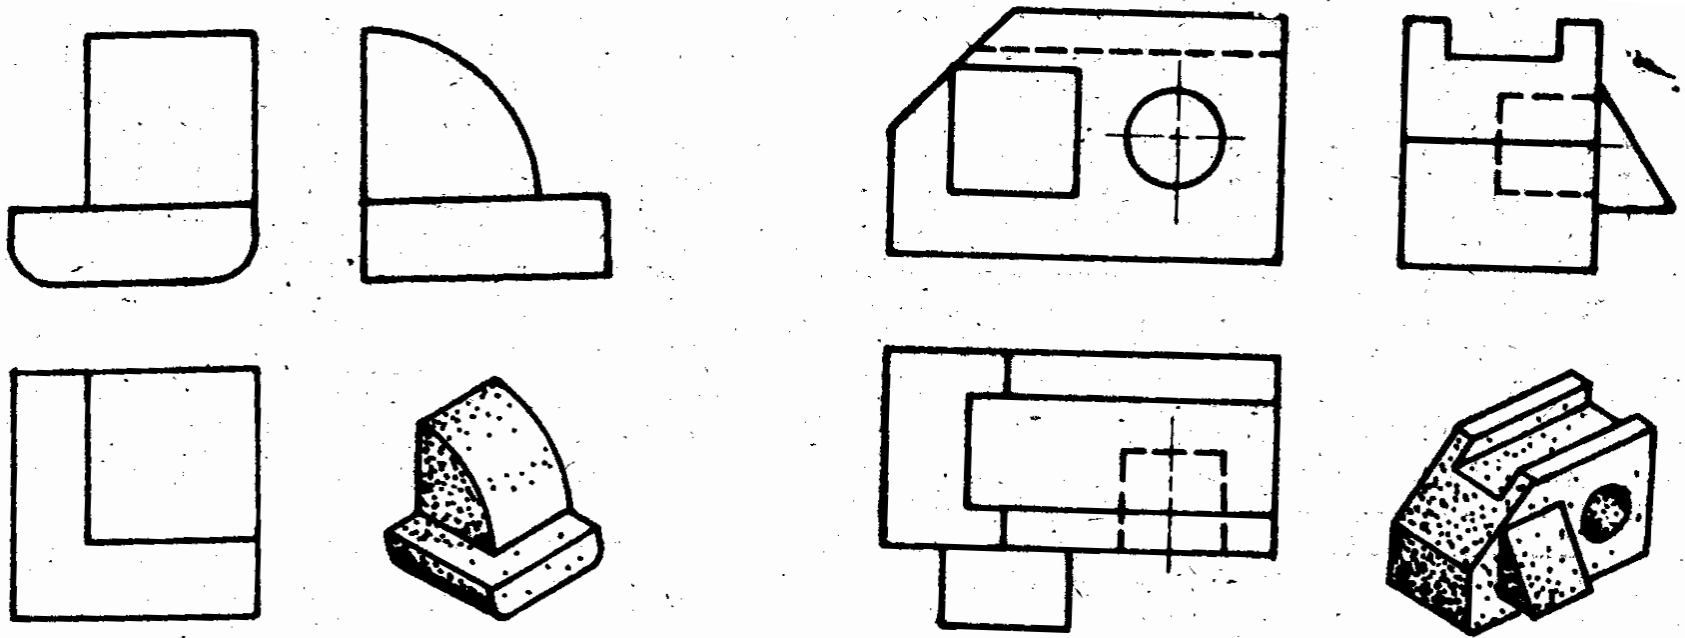

Fig.4.52.Read all views, features and lines. Read each feature by looking at all three views. Then school yourself to remember all features.
- The several lines representing one feature must be read in all views. As an exercise in reading the lines on an orthographic drawing find all the lines representing the hole, prism slot, and cut of corner in (Fig.4.52).